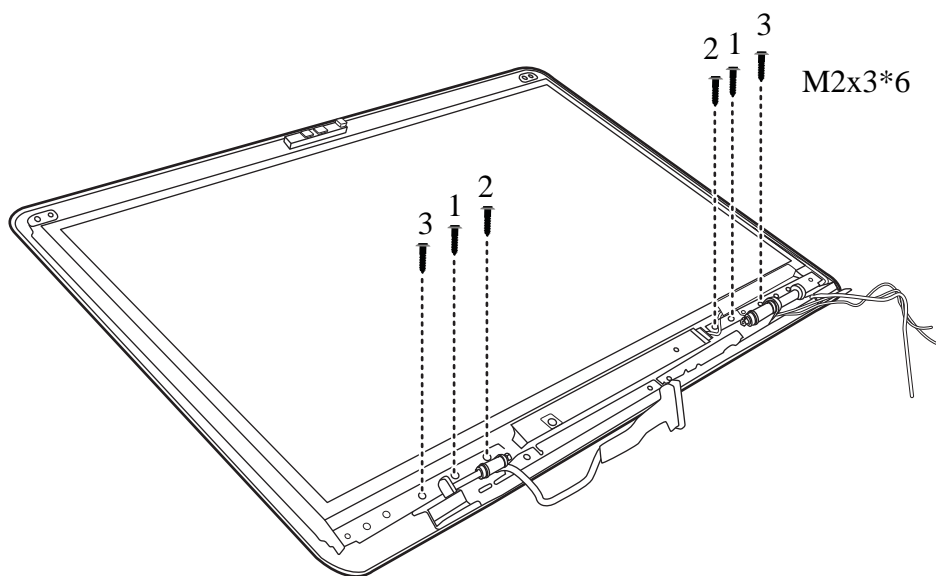

Figure 4.44 Removing the LCD Module from the LCD cover assembly
5. Seat the LCD module in the correct position in the LCD cover assembly and secure it to the LCD cover assembly with six M2x3 screws according to the sequence indicated in Figure 4.44.